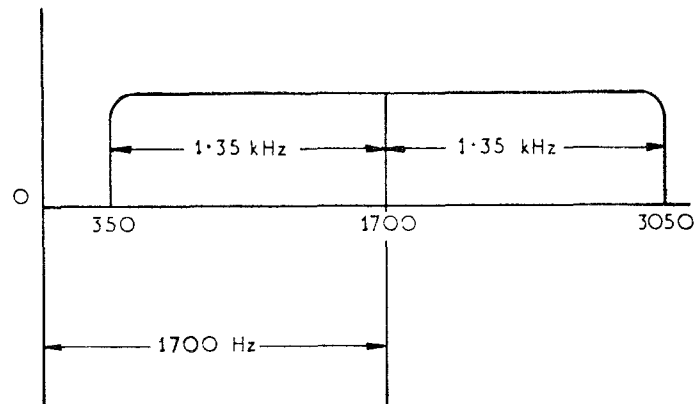

FIG. 5
11. **Basebands.** In paragraph 4 it was shown that the bandwidth was dependent upon the mode of emission and on the upper and lower limits of the frequencies in the audio baseband. The three examples in Fig. 5, each using different audio baseband limits, illustrate how any variation in bandwidth will affect the excursion (or difference) between the centre of the emitted sideband and the suppressed carrier (dial) setting.